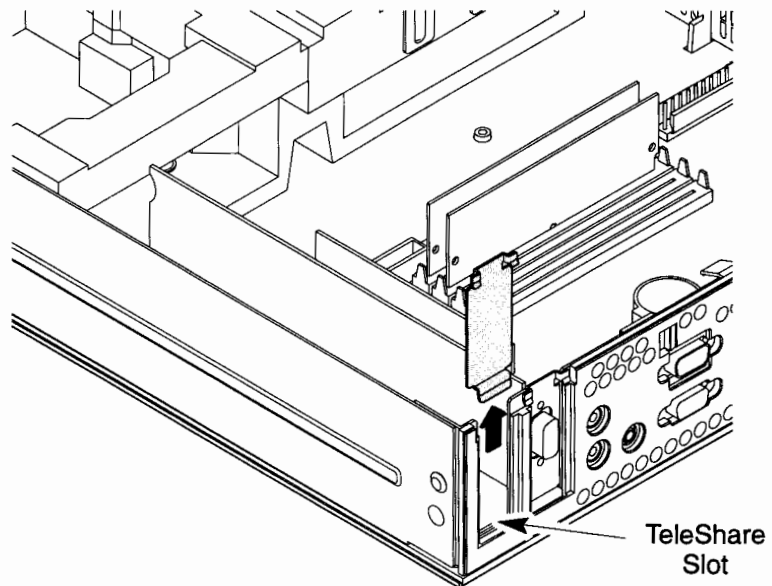

Figure B-23. Removing the Blank Panel from the TeleShare Slot
Find the TeleShare board slot, located at the far right rear corner of the system unit, as shown in Figure B-23.
2. Remove the blank panel from the TeleShare slot, as shown in Figure B-23.